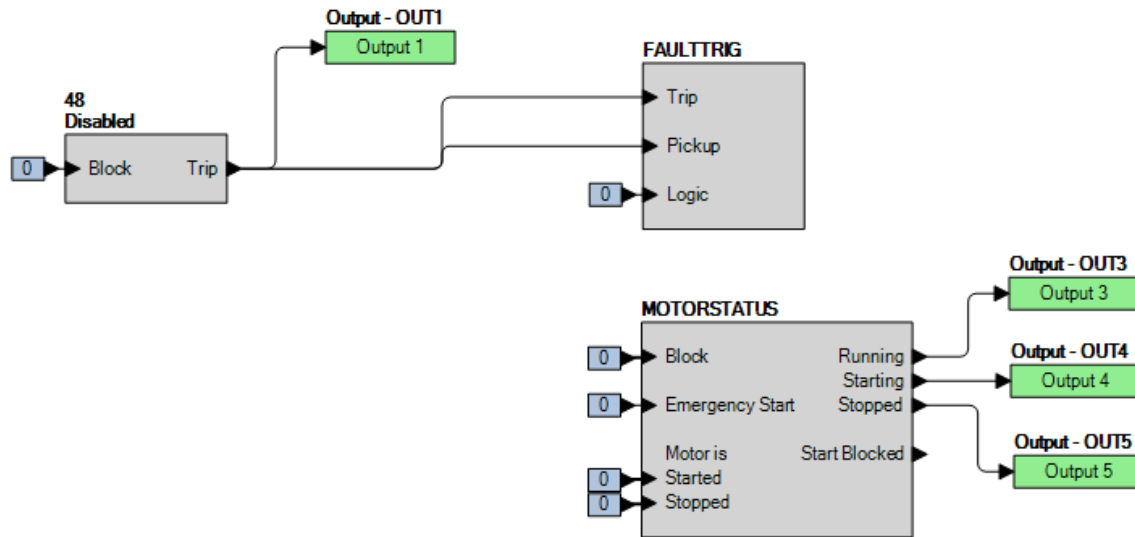

Figure 71-1. BESTlogicPlus Settings
Step 2: Use BESTCOMSPPlus to configure the BESTlogicPlus Programmable Logic shown in Figure 71-1. Note that OUT3 (Running) should never close during the incomplete sequence test.
- Step 3: Prepare to monitor 48 function operation. Operation can be verified by monitoring OUT1 (Trip). See Figure 71-1.
- Step 4: Connect a three-phase current source to terminals D1 and D2 (IA), D3 and D4 (IB), and D5 and D6 (IC).